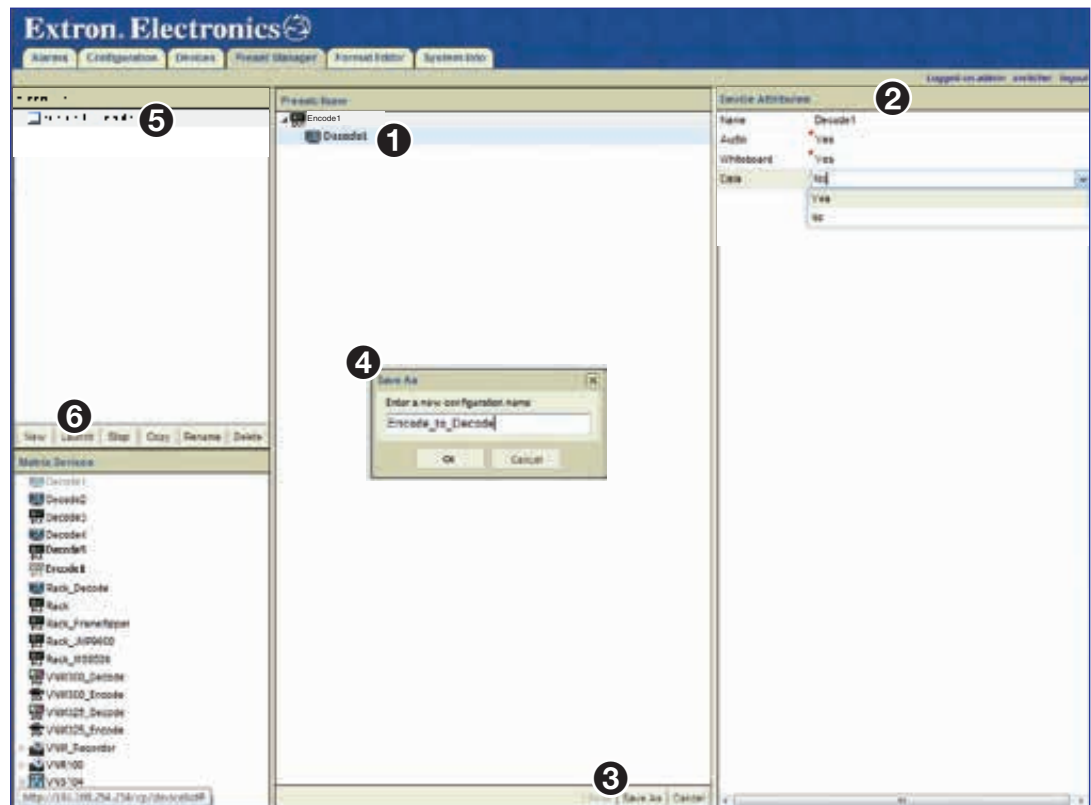

Figure 103. Save a Preset
1. Click on the decoder device in the **Preset** panel (see figure 103, ①) to populate the device attributes (②).
2. Configure the attributes of the decoder (②) as needed (see Device Attributes on page 96).